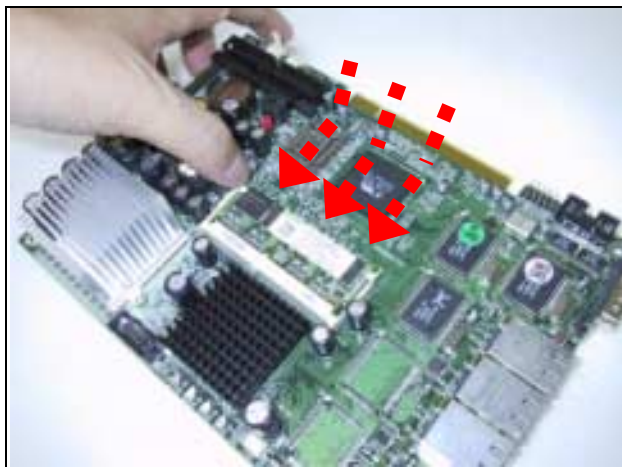

Fig. 2-6 The memory slot
1. Install the system memory by pulling the socket's arm and pressing it into the slot gently. (**Fig. 2-6, 2-7**)